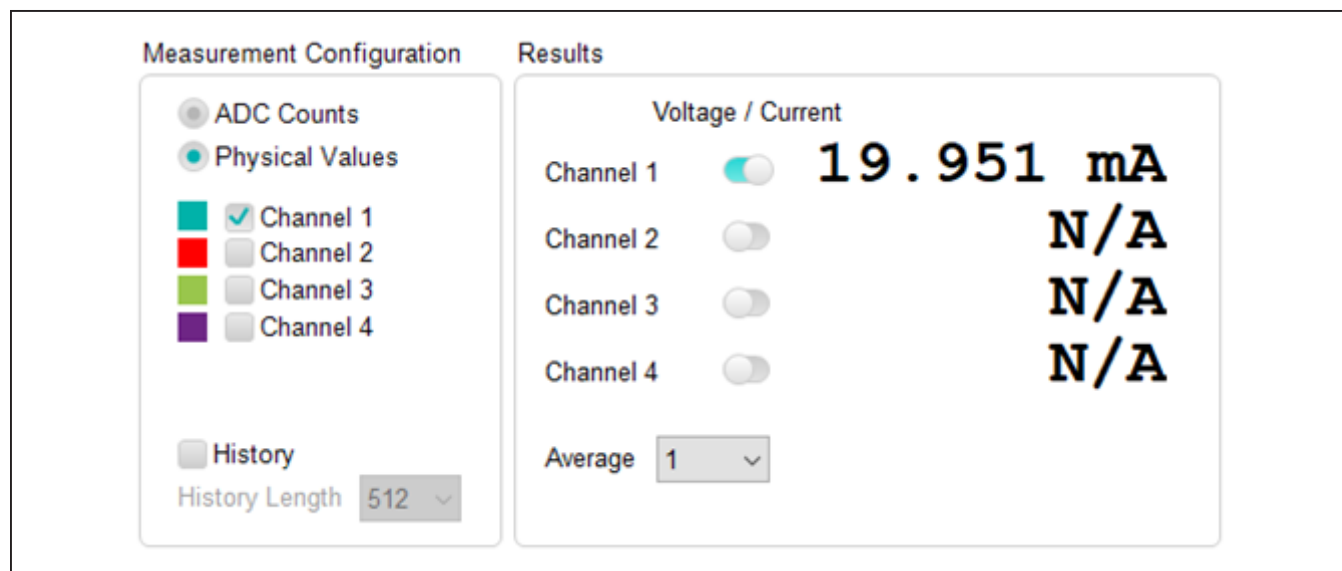

Figure 7. Example Current Measurement Settings and Expected Results
- 15) The current measurements are performed one channel at a time. Disable and/or remove the voltage source. Select only the **Channel 1** box in the **Measurement Configuration**. In **Results**, click the **Voltage/Current** button for **Channel 1** so that it slides to the right (colored blue). See Figure 7. Note that it is possible to measure all four channels at once with four different current sources.
- 16) Connect a current source between CH1 (Pin 1) and the adjacent GND pin (Pin 3). Set the current source to +20mA and activate it. Press **Sample Continuously** in the **Sample** box. You should see a **Channel 1** current measurement result similar to that shown in Figure 7. Press **Stop Sampling**.